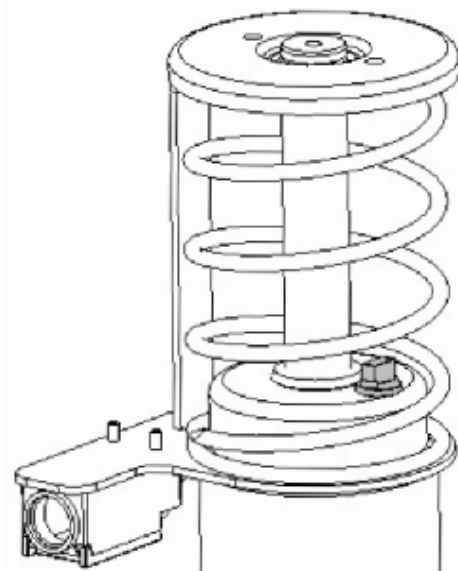

Figure 4
1. Unscrew the dipstick ( indicated on figure 4) and remove from the buffer.